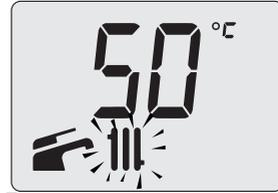

Figure 2.7
- the "set" value of the heating delivery hot water temperature and the  symbol (Figure 2.7).